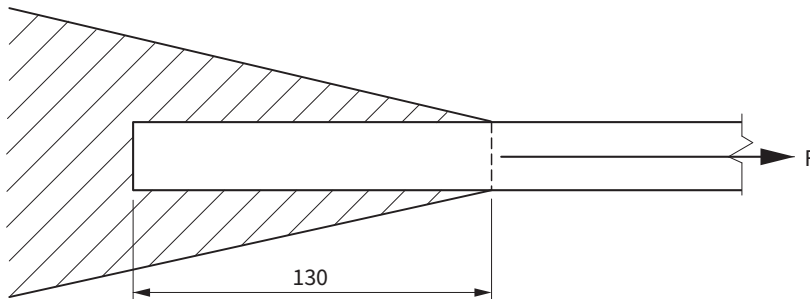

Figure 2
1. Calculate the maximum effective span for a $457 \times 191 \times 89,7$ kg/m structural steel beam able to carry a 375-kN point load at mid-span. The self-weight of the beam must be included in your calculations. Use a bending stress of 175 MPa. (8)
2. Figure 2 shows a tie bar (F) welded to a gusset plate by means of TWO 8-mm side fillet welds.